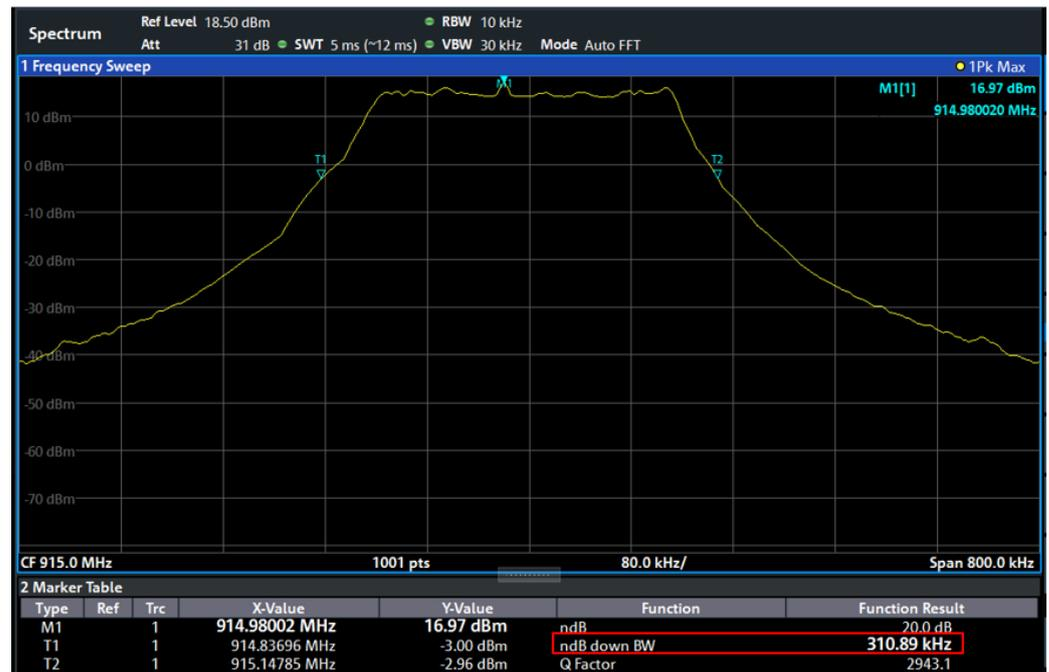

Figure 2-18: Measurement of 20 dB bandwidth, LoRa signal bandwidth 250 kHz, SF = 7
34. As described above under points 1 to 10. Figure 2-18 shows the result of the measurement for a LoRa signal with 250 kHz bandwidth.